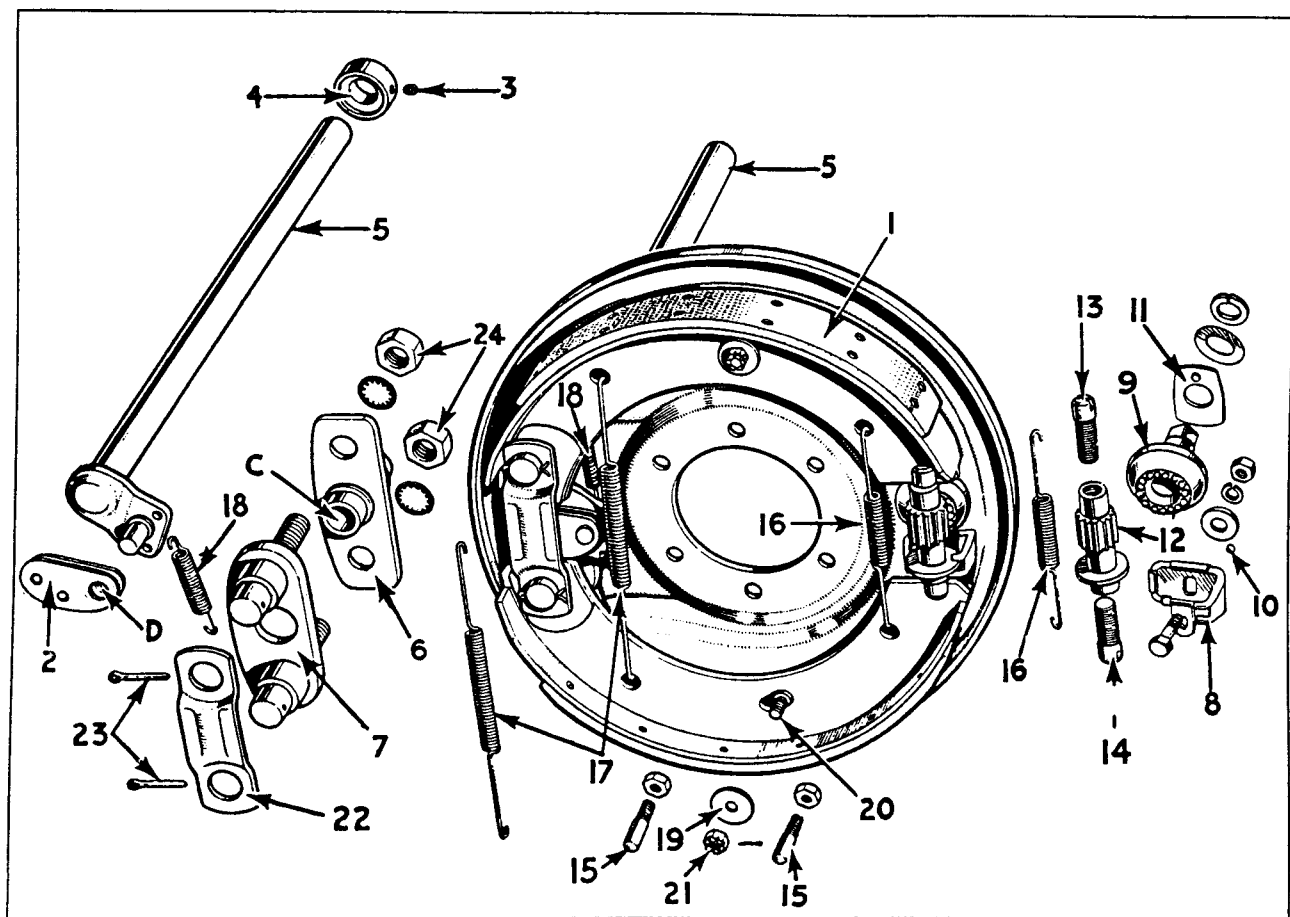

FIG. 2
### (a) KIDNEY—CAM OPERATED TYPE, FIG. 2.
2. Remove shoes (1) and Cam (2).
3. Loosen set screw (3) in collar (4) on brake control crankshaft (5) and withdraw shaft.
4. Inspect control shaft bearing bush (C). Replace bearing (6) if bush is worn.
6. Examine centraliser (8). Replace if spring is broken or distorted. Smear with H.M.P. grease and ensure that adjuster spindle is correctly located in centraliser (See Fig. 2.)
7. Examine crown wheel (9). Renew if teeth are worn. Examine clicker gear, ball (10) and retainer (11).
11. Clean and re-grease adjuster pinion (12) and screws (13) and (14).
12. Apply grease to steady posts (15).
13. Locate shoes on anchor pins and ensure that springs (16), (17), (18) are correctly positioned (See Fig. 2).